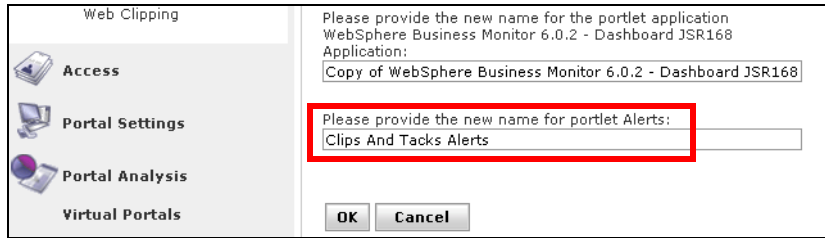

Figure 14-60 Selecting a name for the new copy of the Alerts portlet
- ▶ On the next page, enter a name for the new copy of the alerts view (Figure 14-60):